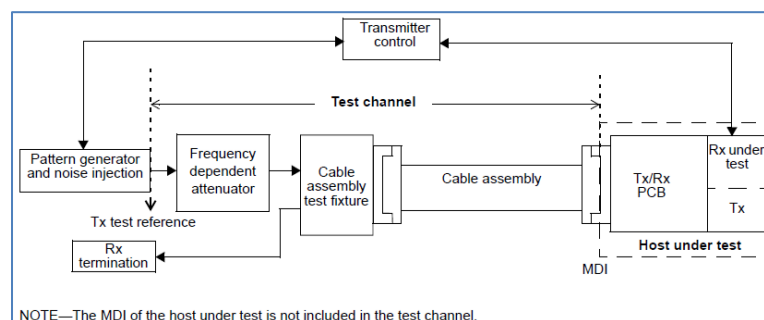

FIGURE 109. INTERFERENCE TOLERANCE TEST SETUP SCHEMATIC (REFERENCED FROM IEEE802.3CK STANDARD, FIGURE 110-3A)
2. Referring to Figure 109 below, allow the Rx equalizer value to automatically optimize or set sweep to determine the minimum BER result. Set the Tx (NEXT crosstalk) of the DUT to the **PRBS31Q** pattern, **Preset 0**, and Output **On**.